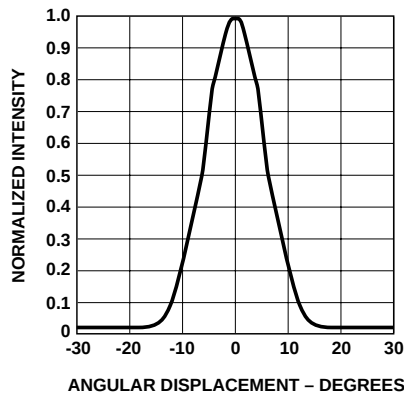

Figure 5. Spatial radiation pattern – 15° lamps.
1. Derate linearly as shown in Figure 5 for temperatures above 50°C.